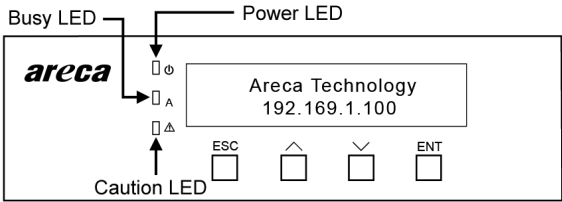

Figure 2-3, LCD Panel LED
There are a variety of status conditions that cause the RAID storage panel monitoring LED to light. The front panel LCD comes with three (3) status-indicating LEDs. The LEDs on the front panel are defined, from top to bottom, Power, Busy, and Caution, as shown in Figure 2-3.